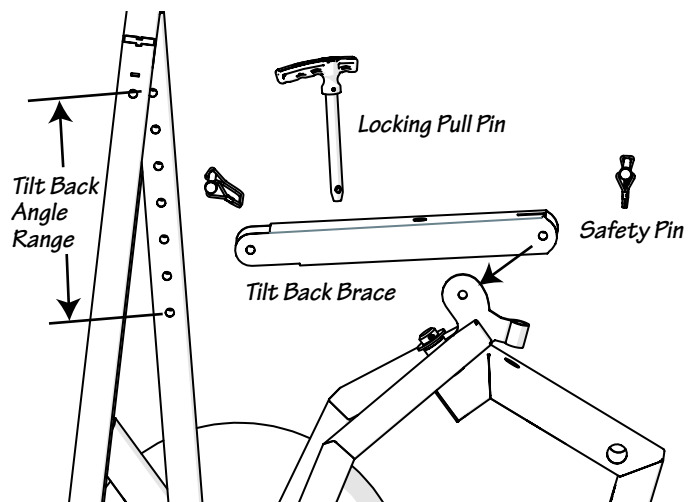

Fig. 2-2
1. From the hardware kit, locate 2 safety pins, locking pull pin and the tilt back brace as shown in Fig. 2-2 shown right.
2. Align the tilt back brace with the lowest mounting hole on the pallet carrier frame. Once the Pallet Carrier has been fully assembled the degree of tilt back can be changed by raising the tilt back brace angle as shown right in Fig 2-2.
3. Working from the opposite end of the tilt back brace insert a safety pin through the brace and mounting tab on the rear axle frame. See Fig. 2-2 and 2-3.